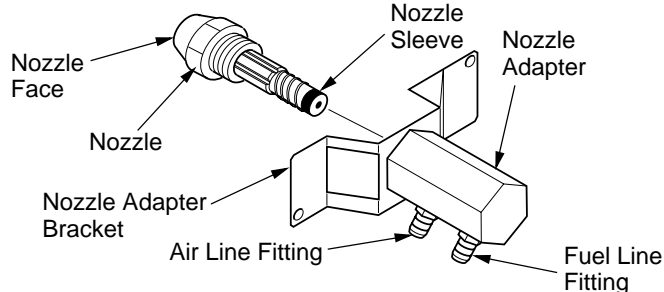

Figure 18 - Nozzle and Nozzle Adapter
- Carefully remove nozzle from nozzle adapter using 5/8" socket wrench (see Figure 18).